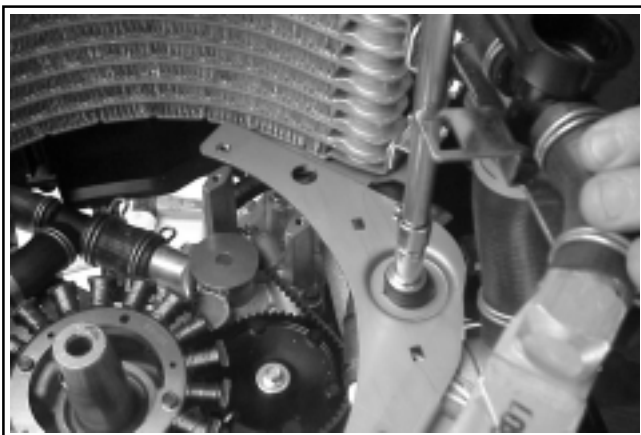

Figure 11-75. Torquing Center Nut.
- Position the rubber mount assembly over the stud with spacer on the intake manifold. Apply rubber lubricant to top of mount and install the flat washer and hex. flange nut. Torque the nut to **9.9 N·m (88 in. lb.)**. See Figure 11-75.